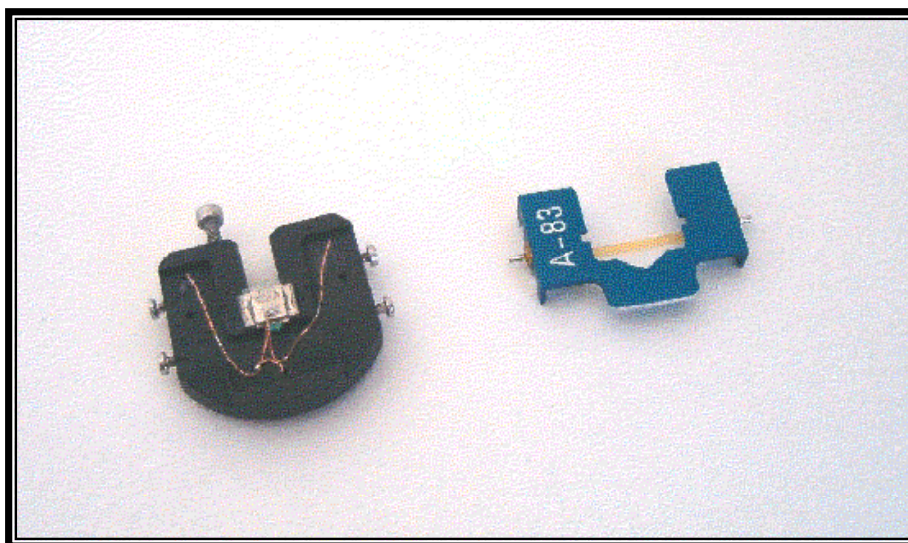

Fig. 2.25: Removing the top part of the cantilever holder
2. You will now have two separate parts as shown in Fig. 2.25.